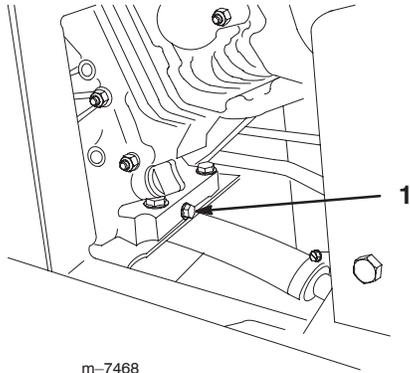

Figure 41
- Remove the drain plug (Fig. 41).